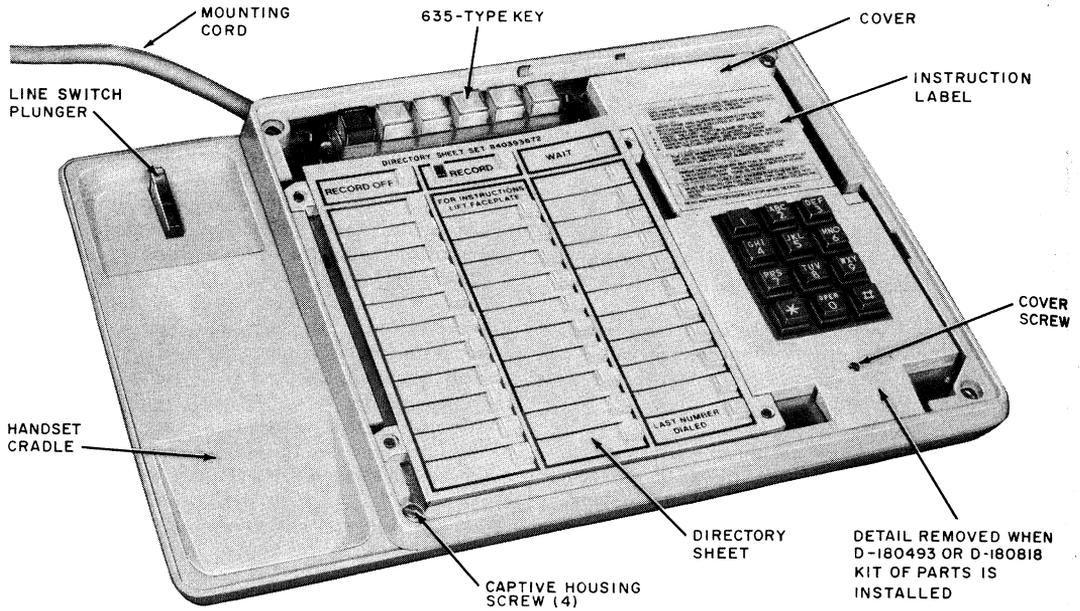

Fig. 2—2872A2M Telephone Set—Faceplate and Handset Removed
2.07 Operating Features (Fig. 2):
3.05 The directory sheets (Fig. 2) fit over the buttons of the memory and are held in place by the faceplate. Additional sheets are available in the directory sheet set, 840393672.
- (5) Make connections per Table C, E, or F.
- (6) Break off the detail at the bottom of the cover (Fig. 2) and trim edge as required.
- (7) Verify correct operation of the option.
- (8) Reassemble set.